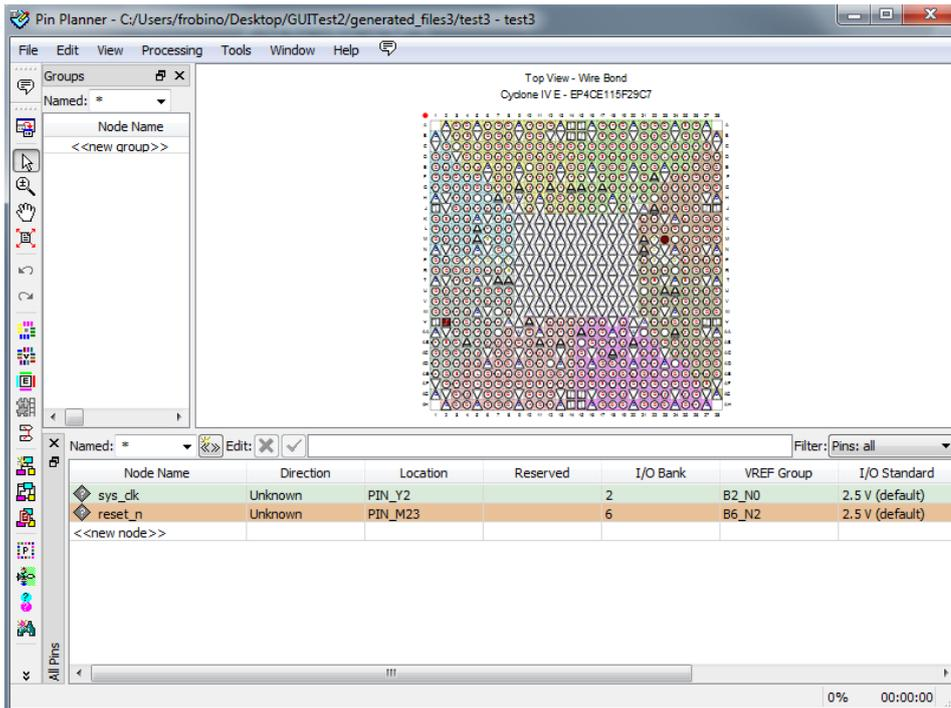

Figure 2.23.: Pin assignment has been done automatically by NSG
- back again in the Quartus II tool main window, click on Assignment – pin planner (Figure 2.22). In this window you can notice that the pin assignment has been done automatically for you, as shown in Figure 2.23. Close this window after you checked it matches with Figure 2.23;